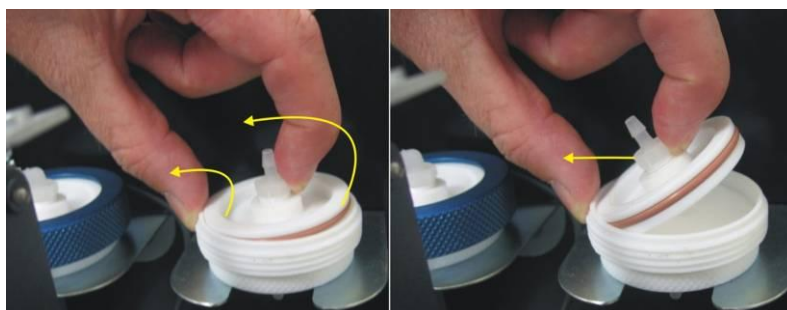

Figure 119 – Removing the Plunger
4. Remove the filter plunger from the casing, place finger on tubing connector and pull to the side (refer to Figure 119).